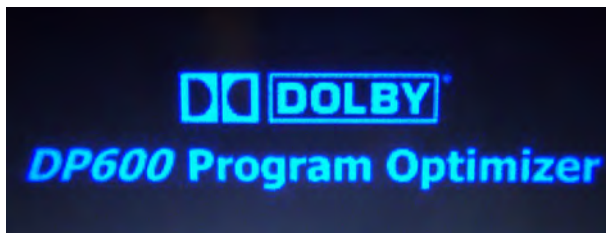

Figure 1 Disconnect Power Cords when You See This Screen
- b. Wait until **Dolby DP600 Program Optimizer** appears on the screen, as shown in Figure 1, then disconnect the power cords from the back of the unit.